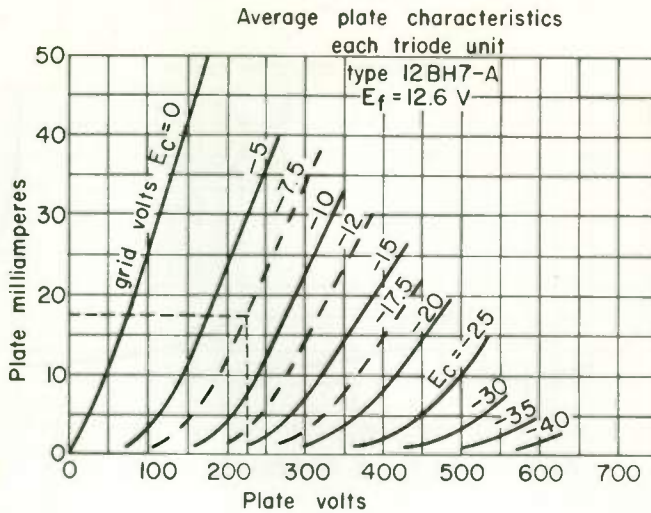

Fig. 17
1. (a) 24 . . . See Fig. 17. Place a pencil on the x axis at the 200-V line and then follow the line upward until the pencil reaches the -5 -V curve. Draw a line straight to the left to the y axis, and note that the line intersects the y axis between 20 and 25 mA. By interpolation, read 24 mA. (b) 10.
5. -7.5 . . . Refer to Fig. 17. Follow the dashed lines that represent the values of plate voltage and current. Notice that they intersect halfway between the grid voltage curves of -5 and -10 V. A curve drawn halfway between the two curves would have a value halfway between the values of the two curves, or -7.5 V.